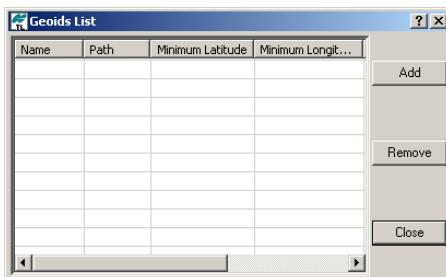

Figure 3-72. Geoids List Dialog Box
2. On the **Geoids List** dialog box, click **Add** (Figure 3-72).